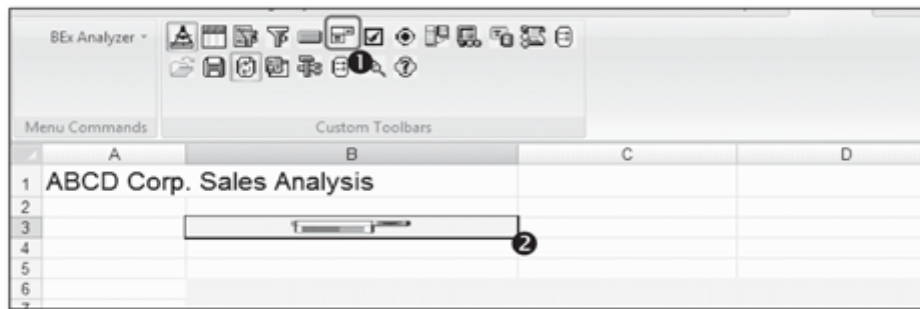

Figure 10.32 Insert Dropdown Box Design Item
6. Select the cell where you want to add the dropdown box in the workbook, and then click on the dropdown button in the Design toolbar (1 of Figure 10.32). The dropdown box design item is added to the workbook (2).